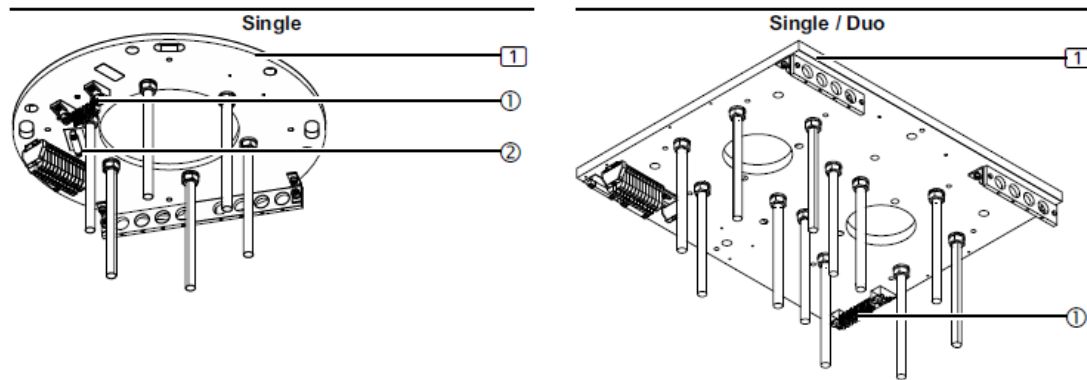

Fig. 52 Connection of the earthing cables on the interface board
Figure 52 shows a simplified illustration of the interface board (1) without extension arm and cables, etc. Wiring shall always start with the equipment grounding wires.